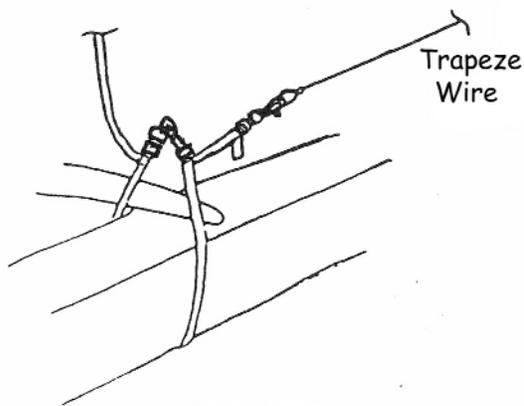

FIGURE 2
4. Pass the end of the stabilizing straps under the hulls and connect the D-ring together with the same snap as shown in Figure 2. Raise the E-Z STEP gin pole to an upright position and remove the slack from the stabilizing straps, using the adjusting slides (see Figure 2).
7. Connect the mast-stabilizing strap on each side of the thimble in the end of the trapeze wire (not the dog bone) using the snap as shown in Figure 2. Remove slack in the trapeze wires using the adjusting slides. Do not over tighten.